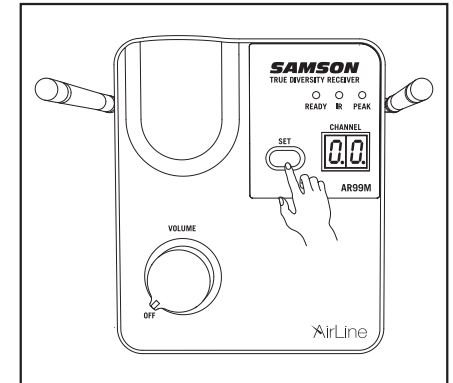

Figure 1
- Press the SET button for more than 2 seconds (the display will start to flash quickly) on the front of the CR88x receiver to scan for an available channel. Once the optimal channel is selected the receiver will enter IR Set mode. The display will flash slowly in IR Set mode. If you want to set a transmitter to the receiver's currently selected channel, press and hold the SET button for more than 10 seconds (until the display flashes slowly) to enter IR Set mode directly. (figure 1).